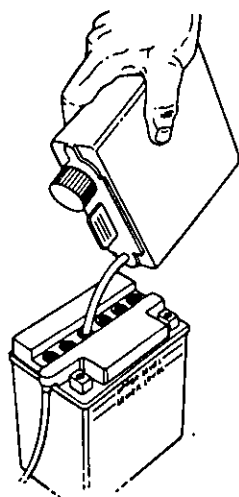

FIGURE 9.
5. Fill each battery cell slowly and carefully to the UPPER LEVEL line marked on battery. See figure 9. ←